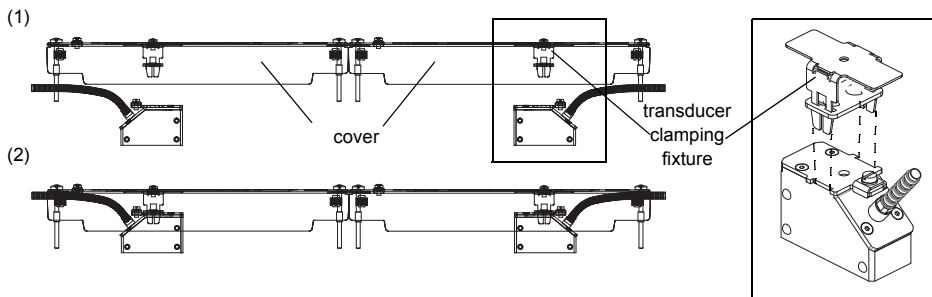

Fig. 8.24: Transducers in the covers
- Press the transducers firmly into the transducer clamping fixtures of the covers until the transducers are tightly fixed (one transducer in each cover). The transducer cables show in opposite directions (see Fig. 8.24).